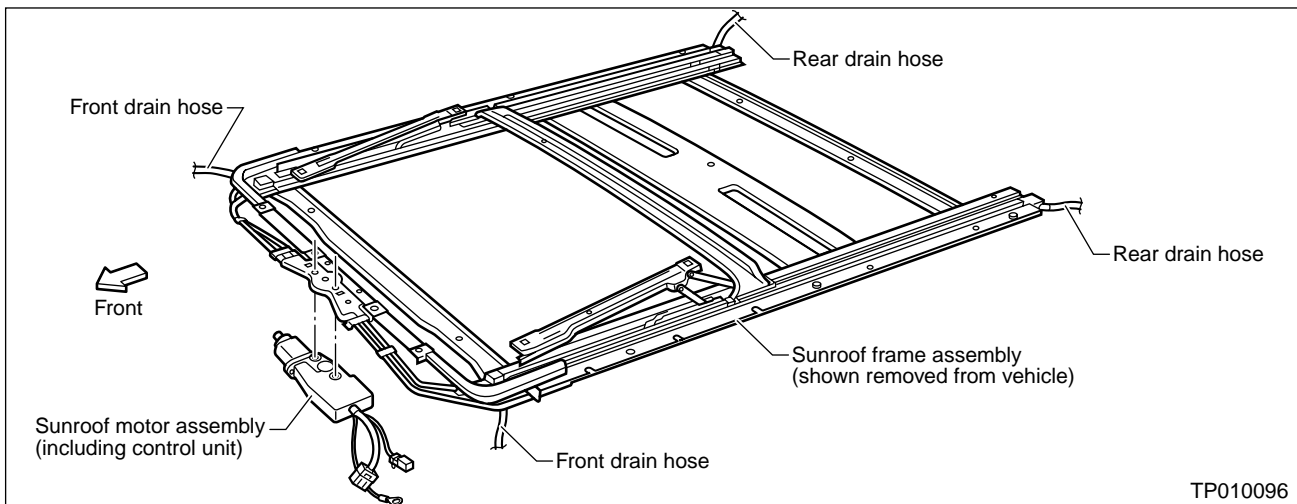

Figure 1
- A. Pour a small amount (less than 1 cup) of water into the front of the sunroof frame assembly, at the location of the front drain hoses (see Figure 1 on page 1 of this bulletin).